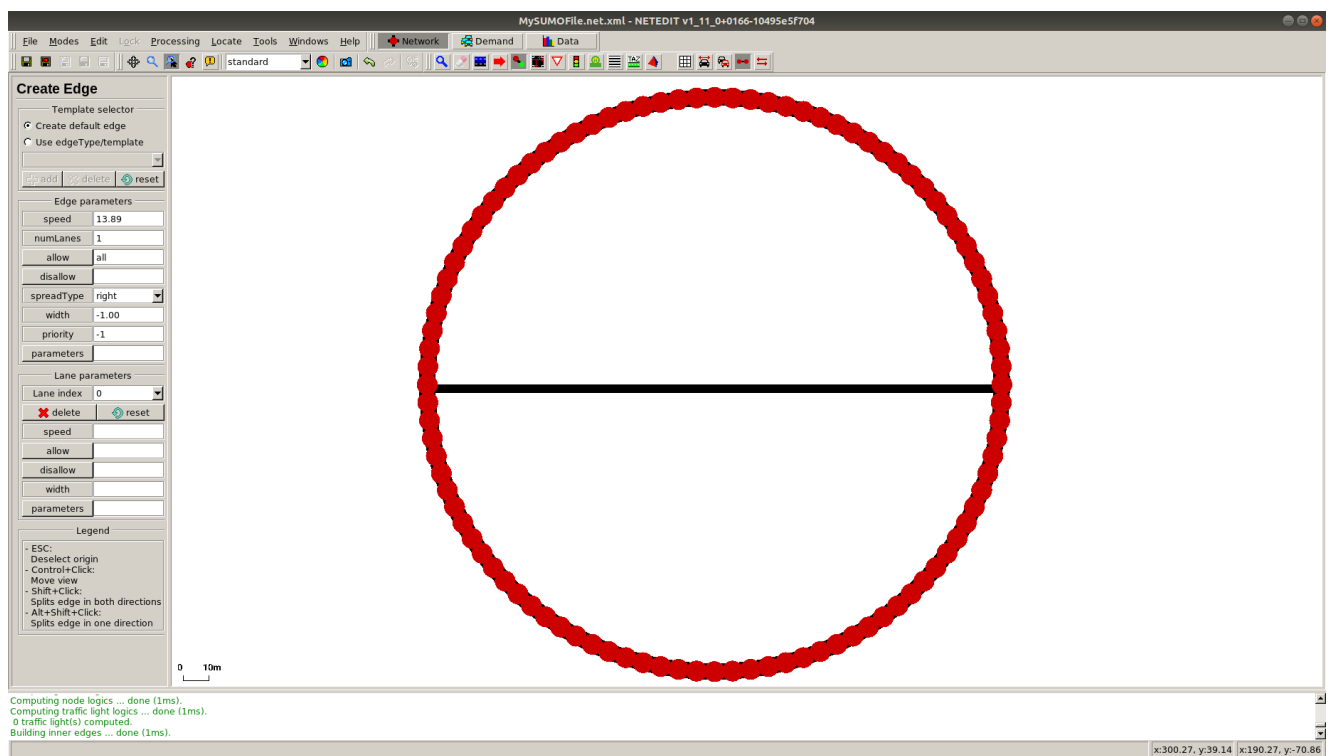

Figure 5: Edge connection
6. You can then connect any edge you want (or create new ones) like in Figure 5: